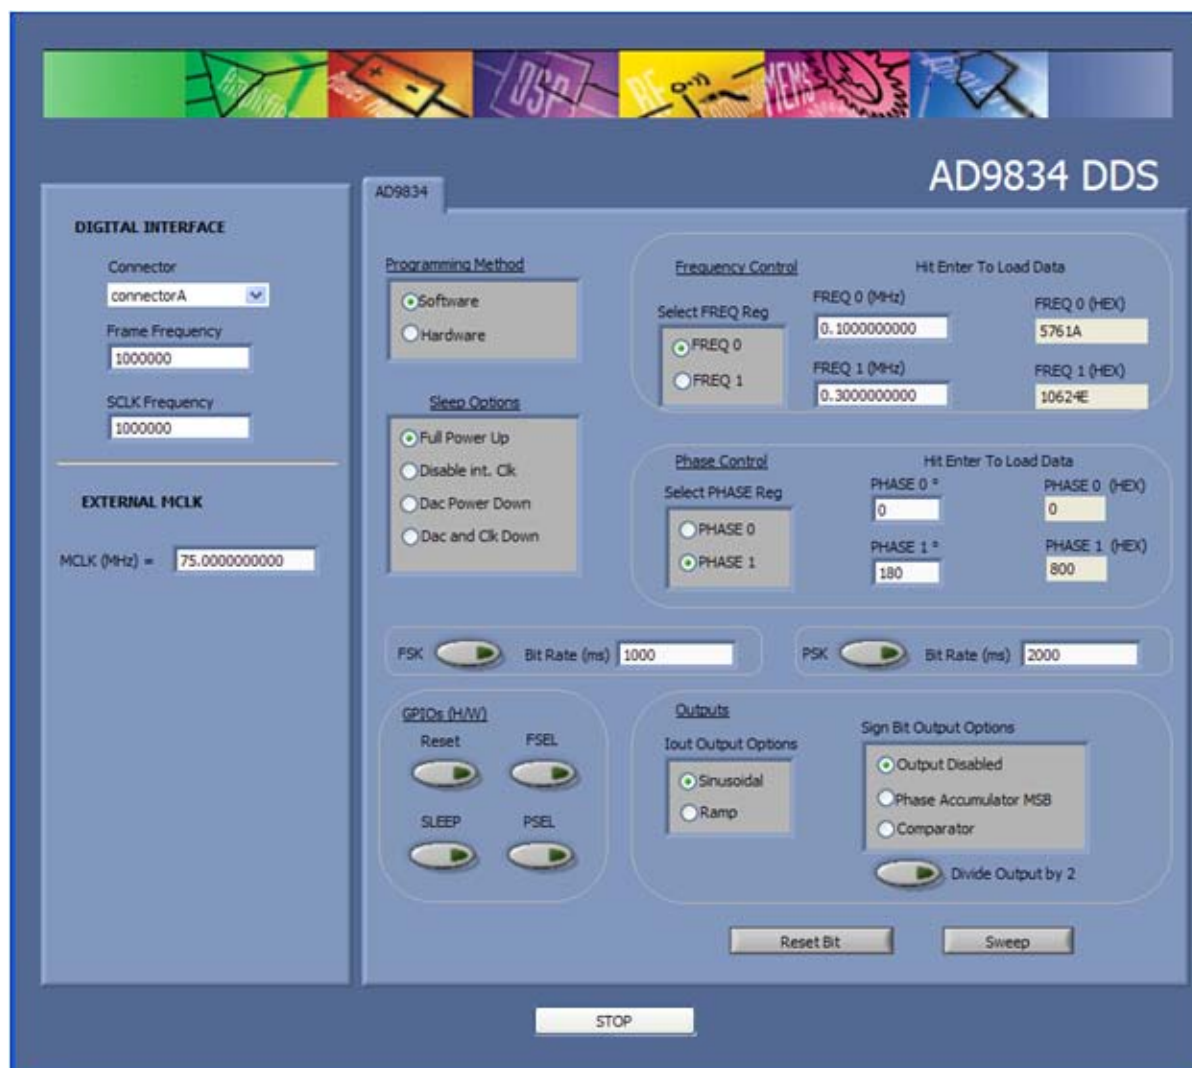

Figure 4. AD9834 Evaluation Board Software
3. Ensure that all links are in their correct locations (see Table 1). The main window of the AD9834 evaluation software then opens, as shown in Figure 4.